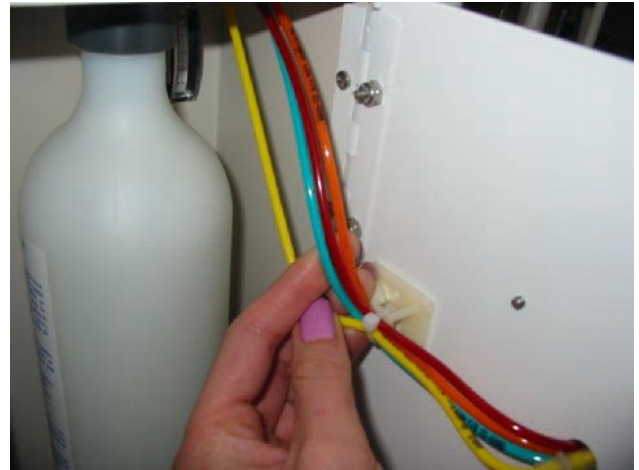

Fig. 4
- 6 Locate color-coded irrigation solution line(s) and yellow air line. (Fig. 4)